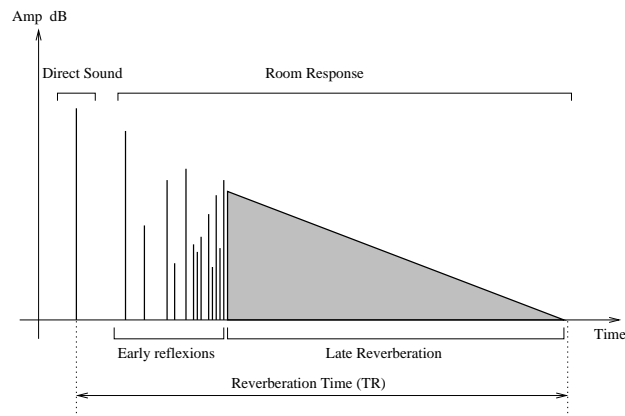

Figure 67: Impulse response of a room.
The best way to evaluate the response of a room is to clap hands and to listen to the resulting sound. Figure 67 shows the amplitude of the impulse response of a room versus time. The first part of the response is the clap itself, the direct sound, while the remaining of the response is the effect of the room which can itself be divided in two parts. Following the direct sound, one can observe a certain amount of echoes which gradually become closer and closer until they can not be distinguished anymore and can be assimilated to an exponentially decaying signal. The first part of the room response is called the early reflexion while the second is called the late reverberation. The total duration of the room response is called the reverberation time (TR).